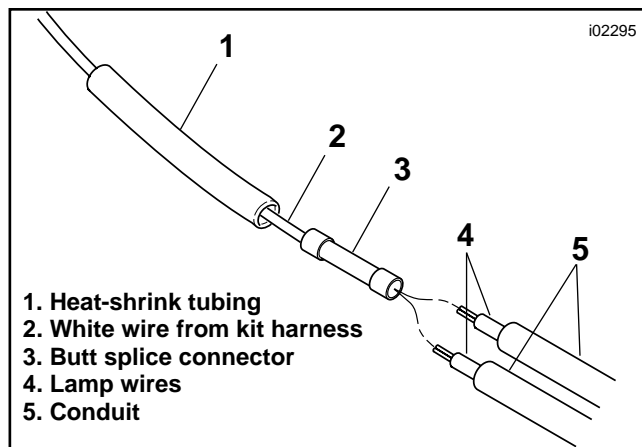

Figure 8. Connect the Lamp Wires to the Kit Harness
21. See Figures 8 and 9, and the SEALED BUTT SPLICE CONNECTORS section of the service manual. Slide the heat-shrink tubing (1) over the white wire (2) from the kit harness, and crimp the electrical connector (3) to the wire with a Crimp Tool, Part No. H-D 38125-8.
22. Bring both lamp wires (4) to the connector. Trim the wires, allowing approximately 1 inch (25 mm) of the wire to extend past the butt splice connector. Trim the conduit (5) approximately 1-1/2 in. (38 mm) back from the end of the wire.
24. Insert the ends of both lamp wires (4) into the electrical connector (3) and crimp the wires to the connector with the crimp tool.